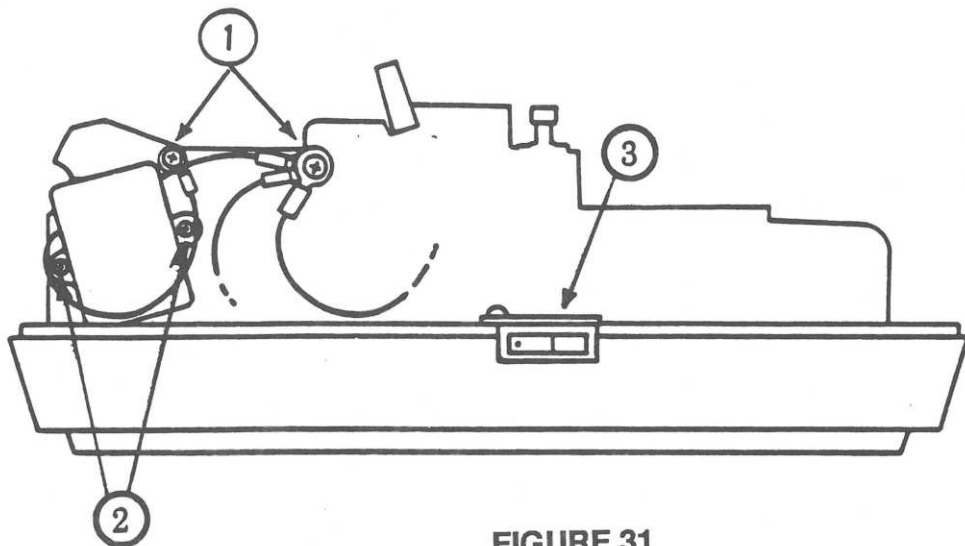

FIGURE 31
3. Position the noise filter on the frame. It goes at an angle. (See Figure 31, #1.)
5. Put together the screw, washer, three ground cables, and star washer. Screw them into the side frame. Do the same with the fourth ground cable. (See Figure 31, #2.)
7. Replace the plate over the power switch. (See Figure 31, #3.)